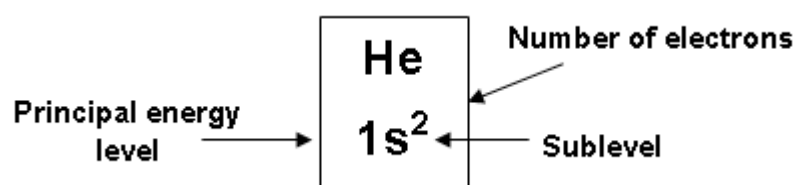

Figure 4. The energy level, number of electrons, and sublevels for any given element can be determined by using the periodic table of elements.
In order to visualize electron configuration, picture your foot on the rung of a ladder is like an electron closest to the ground (Figure 2). The electron configuration naming system describes the location of a specific electron in an atom. Each principal energy level has a sublevel or sublevels (s, p, d, or f). For example, the electron configuration for helium is $1s^2$ because it is in the first principal energy level (1), the first sublevel (s), and has two electrons (Figure 4).